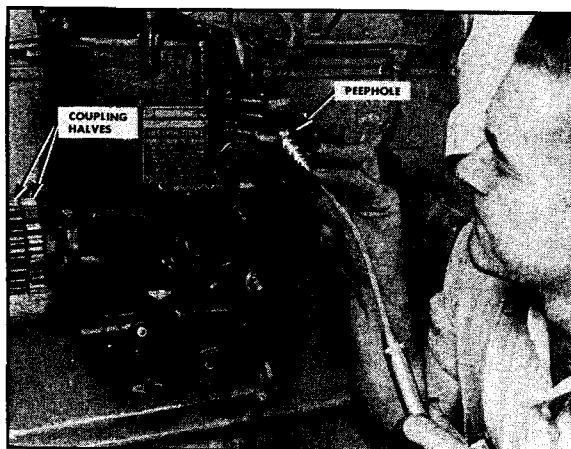

Fig. 12-90. Timing the fuel pump
2. Remove the $\frac{1}{8}$ " socket head plug from the peep hole and rotate the spider gear of the pump until the timing mark appears in the peep hole. Fig. 12-90.